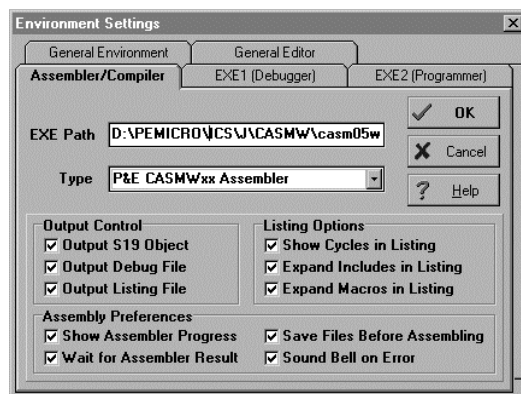

Figure 1-2. WinIDE *Environment Settings* Dialog *Assembler/Compiler* Tab
- Click on the *Assembler/Compiler* tab label to bring the tab (Figure 1-2) to the front. Set the executable path and filename, type, and other options for the CASM05W (or other) assembler software.